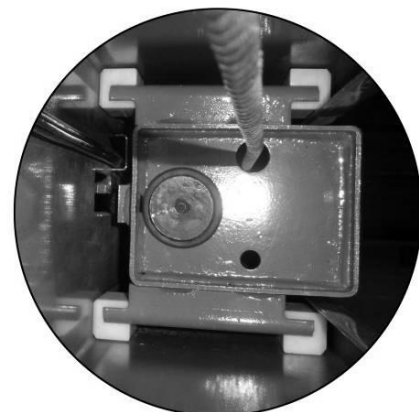

Fig. 18
I. Pull out the carriage, cross the cable (See Fig. 18).